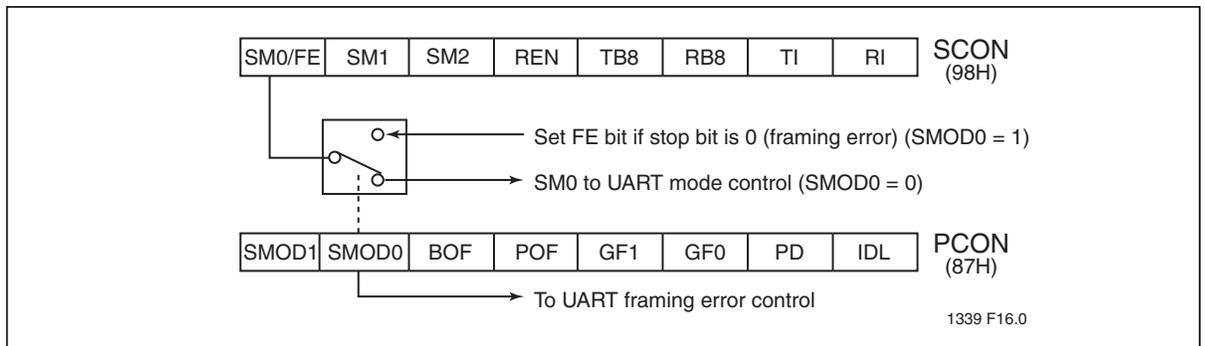
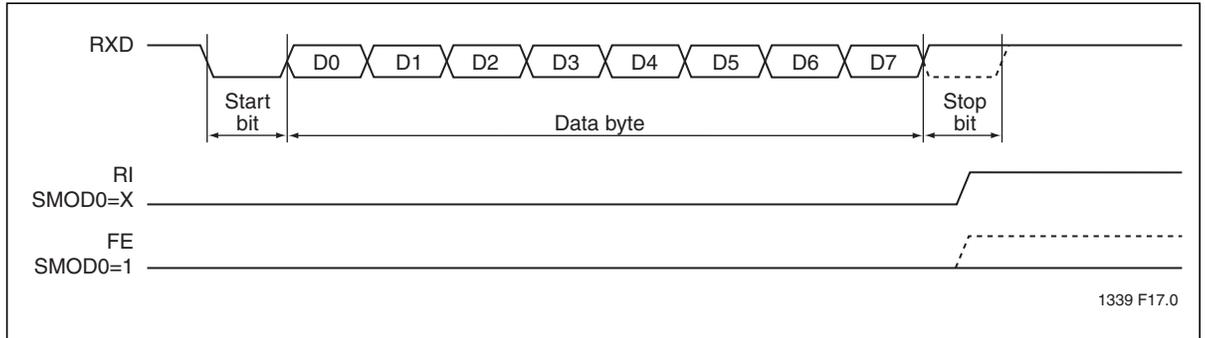
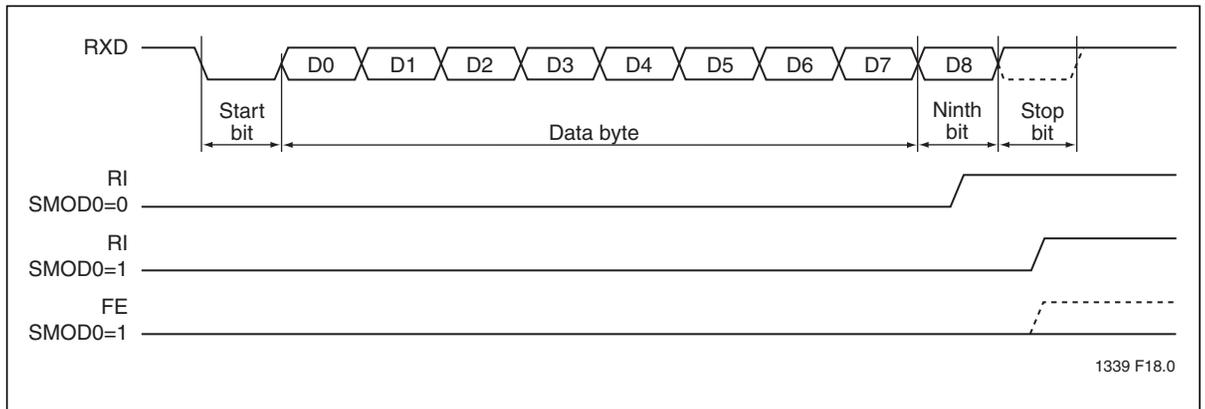

Figure 17:Framing Error Block Diagram
Figure 18: UART Timings in Mode 1
Figure 19: UART Timings in Modes 2 and 3
Framing Error Detection is selected by going to the PCON register and changing SMOD0 = 1 (see Figure 17). If a stop bit is missing, the Framing Error bit (FE) will be set. Software may examine the FE bit after each reception to check for data errors. After the FE bit has been set, it can only be cleared by software. Valid stop bits do not clear FE. When FE is enabled, RI rises on the stop bit, instead of the last data bit (see Figure 18 and Figure 19).